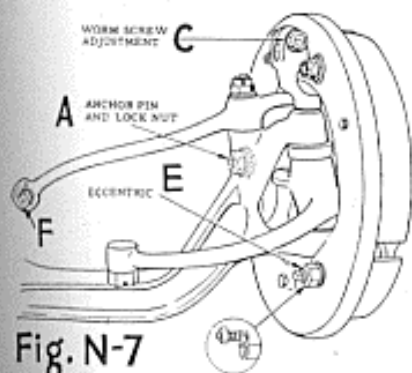

Fig. N7. Lever control front brake with worm screw type adjustment
In the Bendix lever control, the brake cam is actuated by a control lever attached to the axle of the vehicle. One end of this control lever is ball shaped and bears against a small lever attached to the camshaft, as shown in Fig. N7. The other end of the control is operated by the brake pull rod.
1. With all wheels jacked up turn the nuts (F, Fig. N-7-A) on ends of front pull rods until center line of ball on operating lever is $\frac{1}{4}$ in. to $\frac{5}{16}$ in. back of the center line of the steering king pin, with brakes in released position. See Figs. N7 and N8.
4. Now turn the cam lever wormscrew "C," Fig. N7) or button adjustment ("B," Fig. N7A) until wheel binds, then back off until wheel just turns freely. Tighten locknut. Do operations described in paragraphs 2, 3 and 4 to the other front wheel.
8. To adjust anchors: Turn eccentric adjustment screw (See Fig. N7, Page 47) away from articulating pin and leave loose. Slacken off on **anchor pin nuts** (Fig. N12), then tap
On the cam and plate type eleven-inch diameter brake there is only one adjustable anchor pin. This is the secondary anchor pin—the auxiliary pin stopping short of the backing plate and not being attached thereto. In this case the auxiliary pin forms an articulating joint between the secondary and auxiliary shoes. Shoe anchor pin construction of the eleven-inch brake is shown in Figs. N7, Page 47, and N13.
- Loosen anchor nut A (Fig. N7, Page 47) about one turn. **Do the same to other 3 wheels.**
- Turn eccentric adjustment (Fig. N7, Page 47) away from articulating pin (by turning it in opposite direction to that in which wheel revolves when car moves forward) until wheel spins freely. **Do the same to other 3 wheels.**